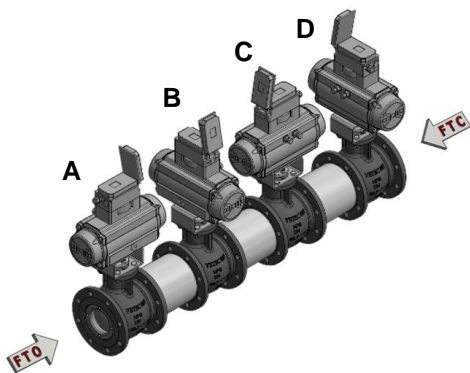

Fig. 4.1: Standard installation positions - horizontal pipeline
- SAMSON VETEC recommends the standard installation position: horizontal pipeline, AT actuator orientated vertically upwards. See Fig. 4.1.